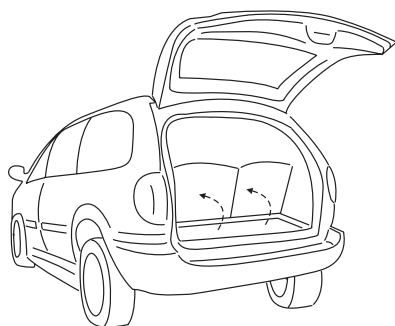

Figure 18-1
1. Fold 3rd Row seating up, exposing the storage well. [Figure 18-1]